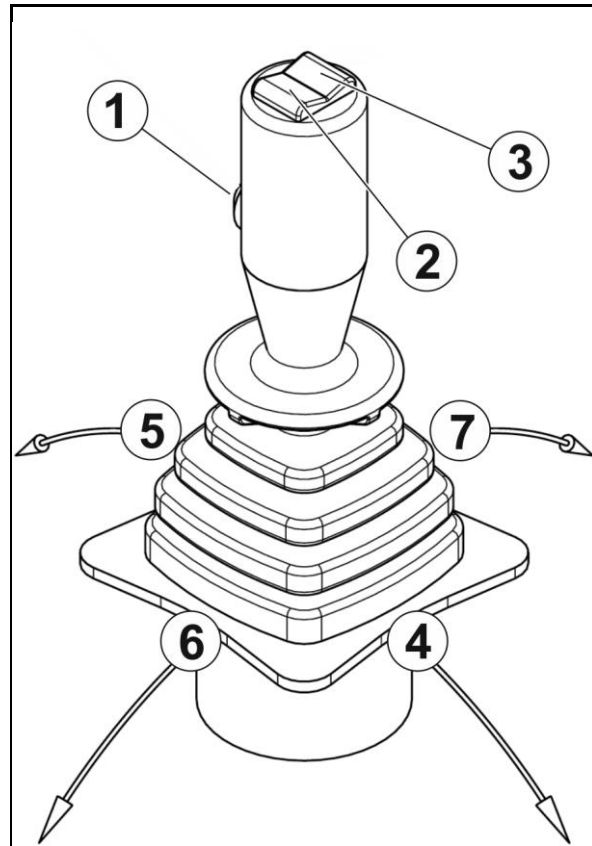

Fig. 80
1. Open the milling drum protection (Fig. 80/3).
5. Move and keep hold of the joystick to the left (Fig. 80/6) with the enabling button pressed (Fig. 80/1):
7. Release the enabling button (Fig. 80/1), keep hold of the joystick to the left (Fig. 80/6) and move it forward (Fig. 80/5):
To reverse, move the joystick to the right (Fig. 80/7) and keep hold of it with the
enabling button pressed (Fig. 80/1).
11.2 Close the milling drum protection (Fig. 80/3).